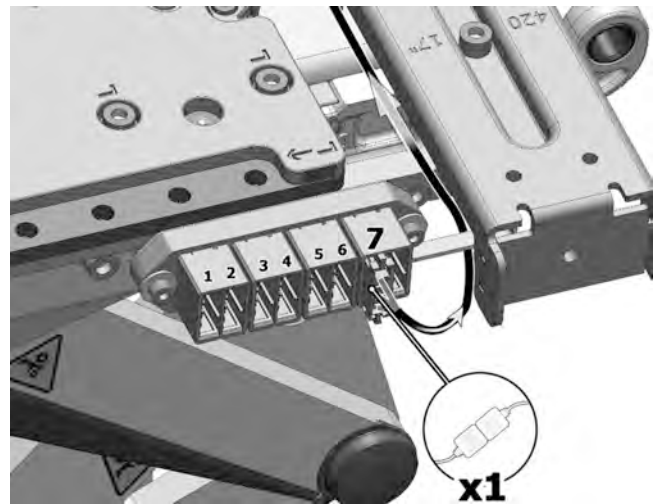

Figure 89. The ICS bus cable is connected to the seventh position of the connector block.
8. Disconnect the cable that connects the ISC Master Module to the contact block at the seat frame. See fig. 89. Release the cable from its cable brackets on the seat frame and AP-Elevator. Make note of how the cables are assembled on the seat frame with consideration to subsequent assembling. See *Rnet and ICS bus cable mounting*, Page 81.